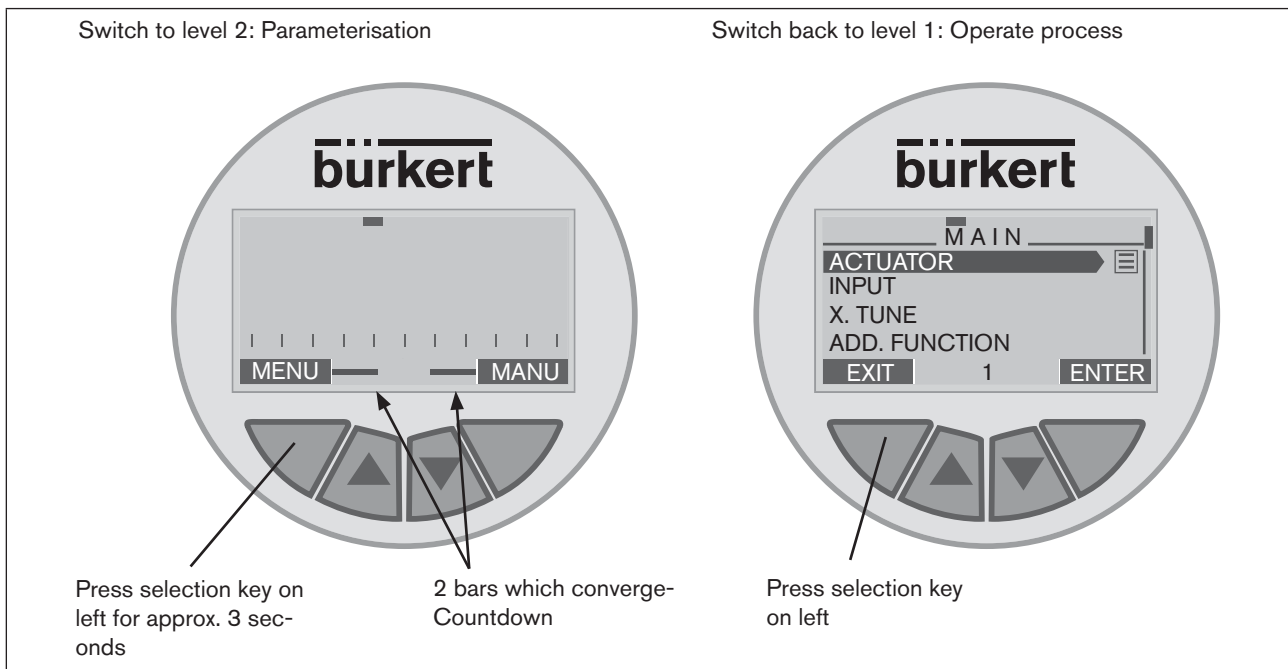

Fig. 3: Switch operating level
- To switch from level 1 (Operate process) to level 2 (Parameterisation), press the selection key on the left (MENU) for approx. 3 seconds. During these 3 seconds (Countdown) 2 bars converge (see Fig. 3).